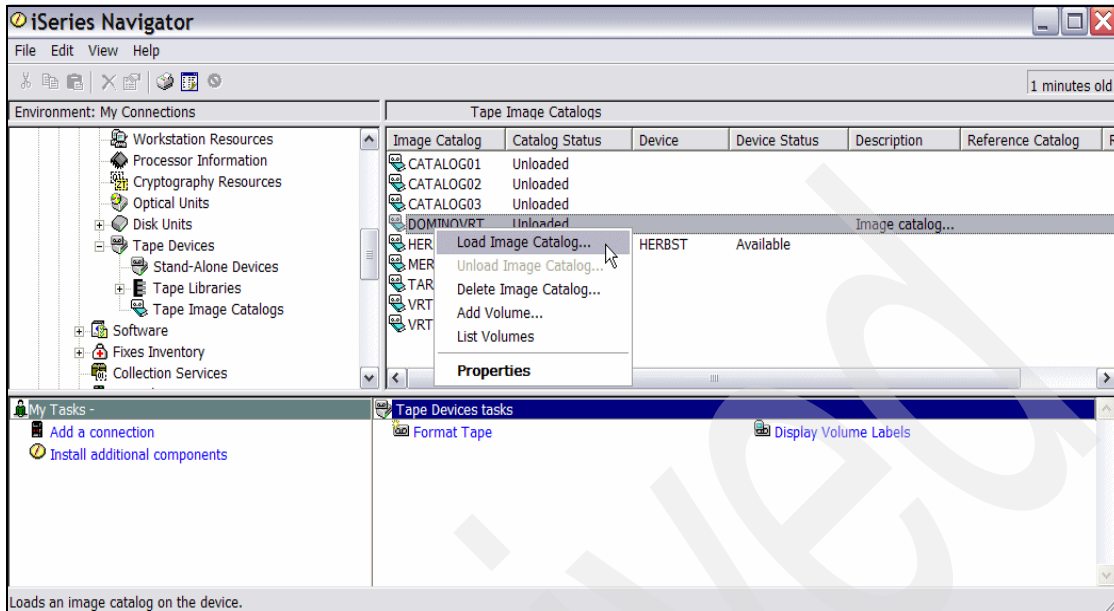

Figure 5-8 Domino with BRMS virtual tape - load image catalog
8. In order for an image catalog to be operated, it has to be connected to a tape drive. Right-click the image catalog and select **Load Image catalog**, as shown in Figure 5-8 on page 197.
10. Bring up the list of volumes by right-clicking the image catalog in the window shown in Figure 5-8, and selecting **List volumes**. This displays the list of